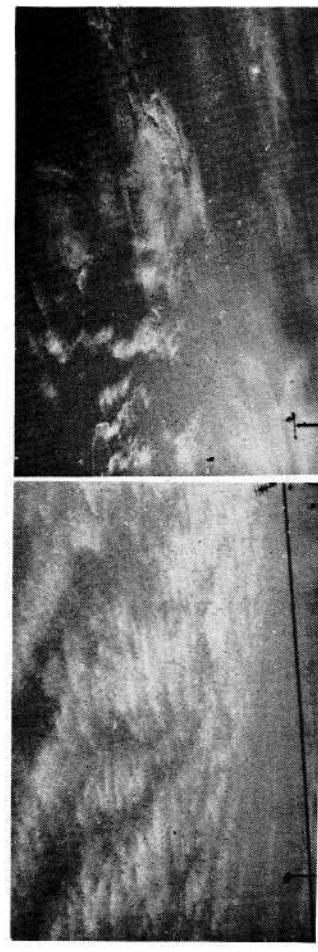

Fig. 180
3. **Cirro-stratus.** High. Thin and veil-like, with a whitish milky wash effect. (Fig. 180). Next come the *Altos* group, below the *Cirrus* group. . . .